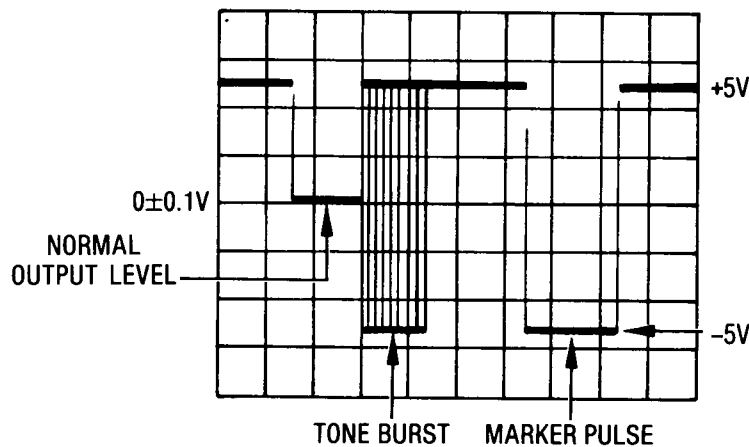

Figure 5-59. Marker Waveform
11. Using the GND on channel 1 of the oscilloscope, set a reference for normal output level (see Figure 5-59).